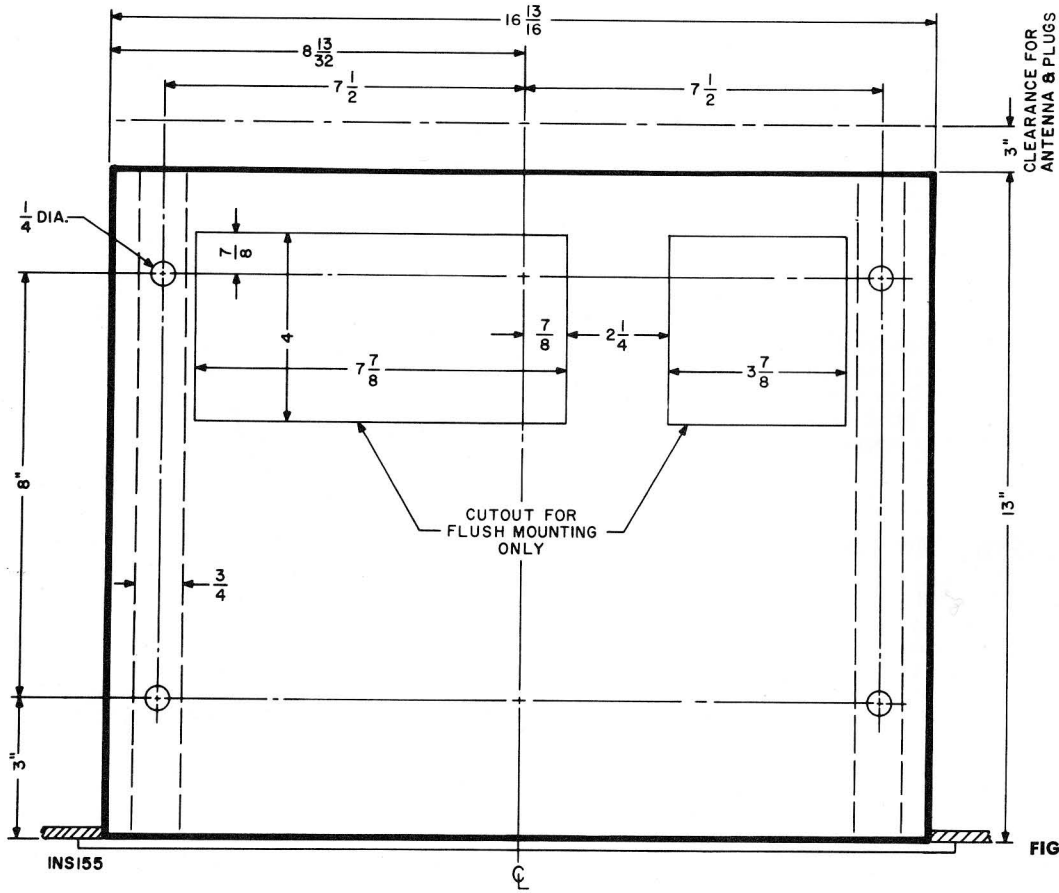

FIGURE 3. Top view of custom installation.
- 2—Fasten the two cleats to the top of the mounting board with wood screws in the position shown in Figure 3. Screw heads should be flush with the top of the cleats. Then locate and drill four $\frac{1}{4}$ -inch holes through the mounting board and cleats as indicated.
If the height of the custom cabinet will not permit you to mount the *500-B* by means of cleats, as described in the preceding section, the chassis may be mounted directly on the cabinet shelf. If the chassis is mounted in this way, however, it is essential that cutouts be made in the shelf as shown in Figure 3, and that the back of the cabinet remain completely open, in order to provide proper ventilation. For a flush-mounted installation, proceed as follows:
- 1—Locate and drill the four $\frac{1}{4}$ -inch holes in the bottom shelf of the custom cabinet as indicated in Figure 3.
2—Saw cutouts in the bottom shelf following the outlines shown in Figure 3. It is absolutely essential that these cutouts be made as indicated so that the necessary ventilation will be supplied to the 500-B chassis.